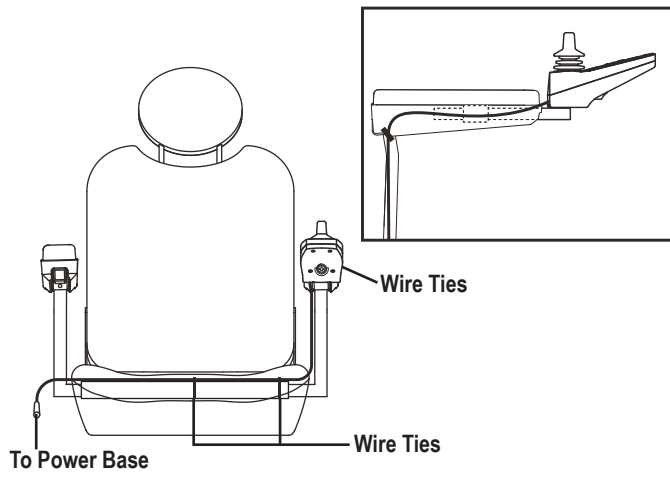

Figure 6. Controller Harness Routing on a Contour Seat
11. Secure the controller harness to the armrest with wire ties. **See figure 6.**